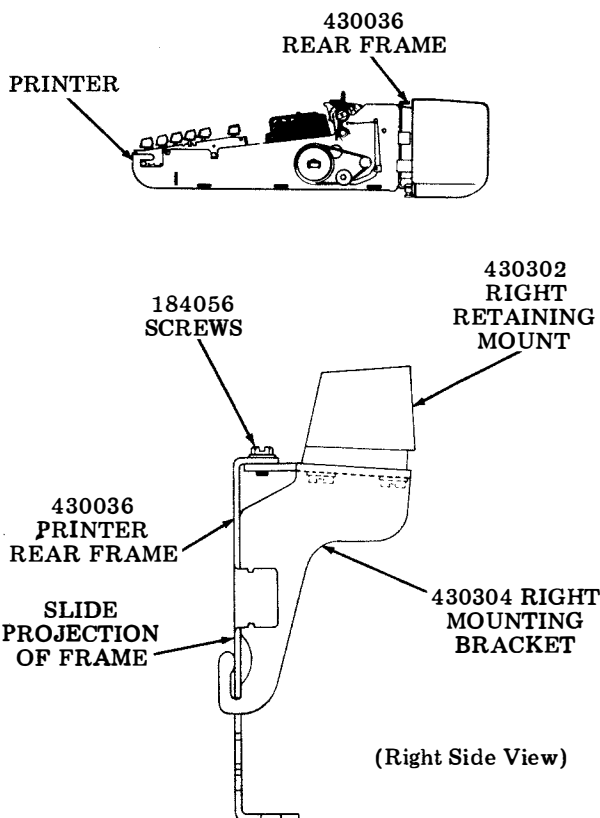

Fig. 4
4.04 Attach the 430304 right mounting bracket to the 430036 printer rear frame by hooking the lower slot of the mounting bracket under the lip of a slide projection of the printer rear frame and fasten it to the top formed edge of the rear frame using two 184056 screws. See Fig. 4.